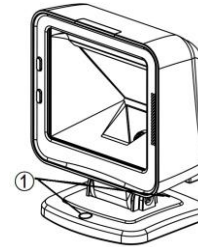

Figure 2-3
3. As shown in Figure 2-3, if you want to fix the stand on a table or other platform, you can remove two plastic stopper on the stand (see ①), then fix the stand with a table with appropriate screws.